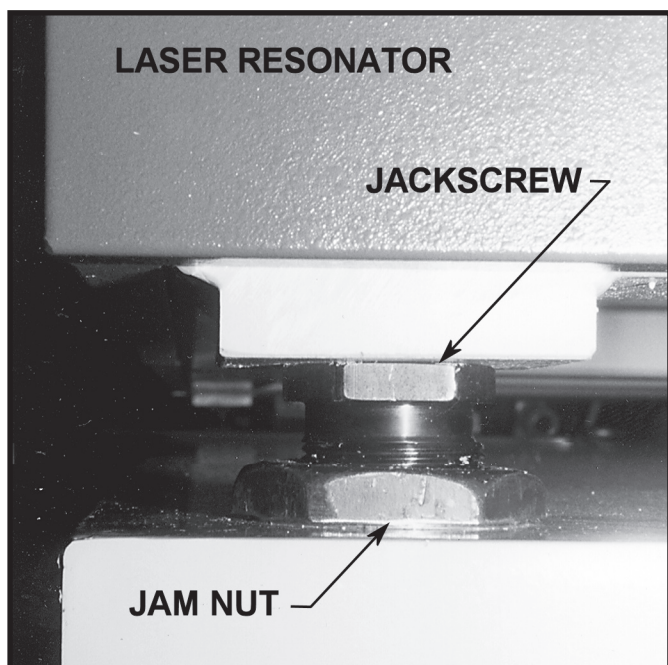

FIGURE 9-15 Laser resonator adjustment
The alignment procedure begins by removing the first external mirror and checking the position of the beam in the mirror mount. The vertical position is adjusted by raising or lowering the resonator cabinet (see Figure 9-15). The horizontal position is adjusted by moving the base of the collimator support.
To adjust the laser resonator vertically, use the four jackscrews (one at each corner). See Figure 9-15. Each jackscrew is locked in place by a large jam nut. Loosen each mounting bolt and jam nut several turns to allow sufficient room for vertical adjustment. Do not retighten the bolts or jam nuts until Step 7.
7. Shut down the machine and turn off the main disconnect as described in SECTION 7 – “START-UP AND SHUTDOWN”. Retighten the mounting bolts and jam nuts locking the jackscrews (Figure 9-15). Start the laser and take one more card shot to verify alignment of the laser resonator.
The purpose of this alignment is to steer the laser beam parallel to the X-motion of the machine and to center the beam in the moving X-mirror. See Figure 9-15. Steering is done by adjusting the second collimator mirror. Centering is done by position adjustments of the moving X-mirror in the Y or Z-direction.